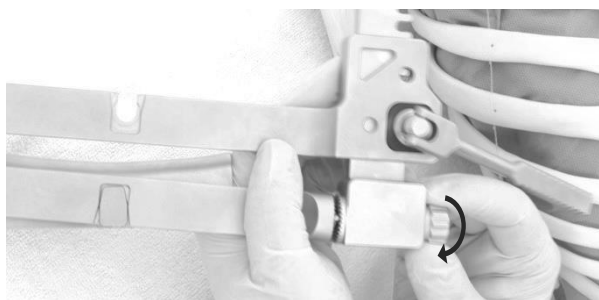

Fig. 11
2. Turn the rotatable retractor arm by loosening the fastening screw until the interlocking teeth no longer engage. Turn the rotatable retractor arm counter-clockwise as far as it will go (the interlocking teeth also allows less rotation). Tighten the fastening screw by hand (Fig. 11).